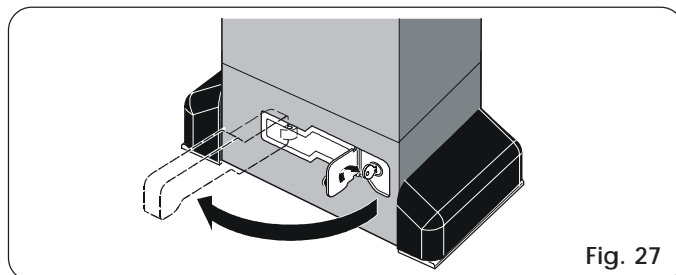

Fig. 27
- 2) Turn the key clockwise and pull the release lever as shown in Fig. 27.